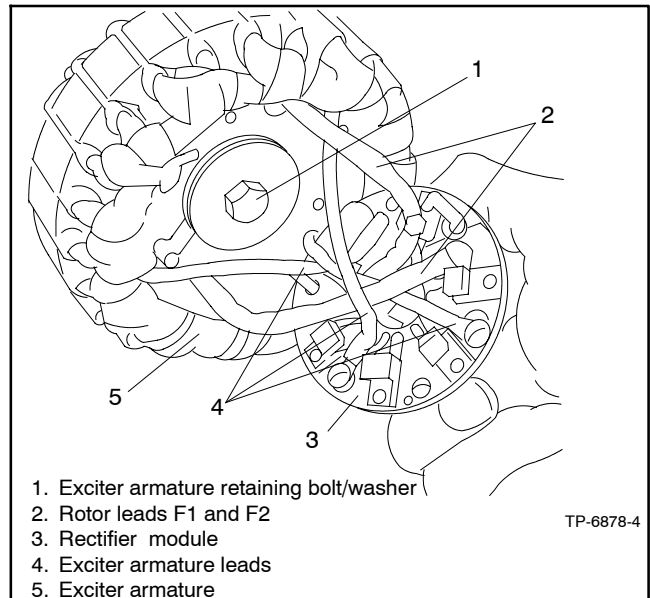

Figure 15-14 Exciter Armature and Rectifier Module
12. Bring the rotor leads F1 and F2 through the open spaces in the exciter armature windings while installing the exciter armature on the shaft. Check the keyway of the shaft and key of the exciter armature for damage. Install the exciter armature retaining bolt and washer and torque to specifications. See Figure 15-14.